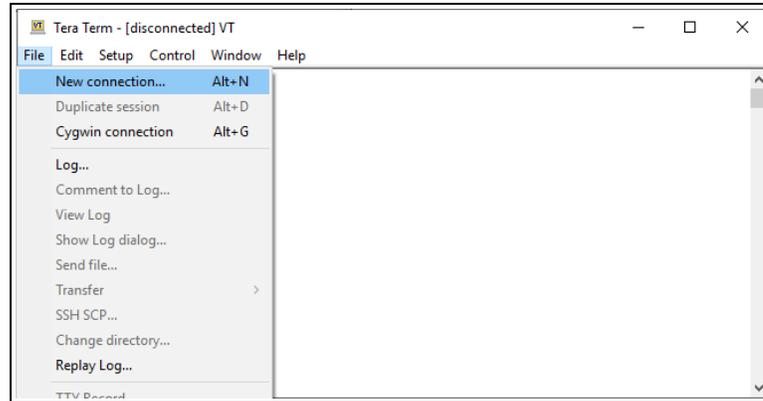

Figure 221: File menu > New Connection
2. In **Tera Term**, click the **File** menu and select **New Connection**. Figure 221